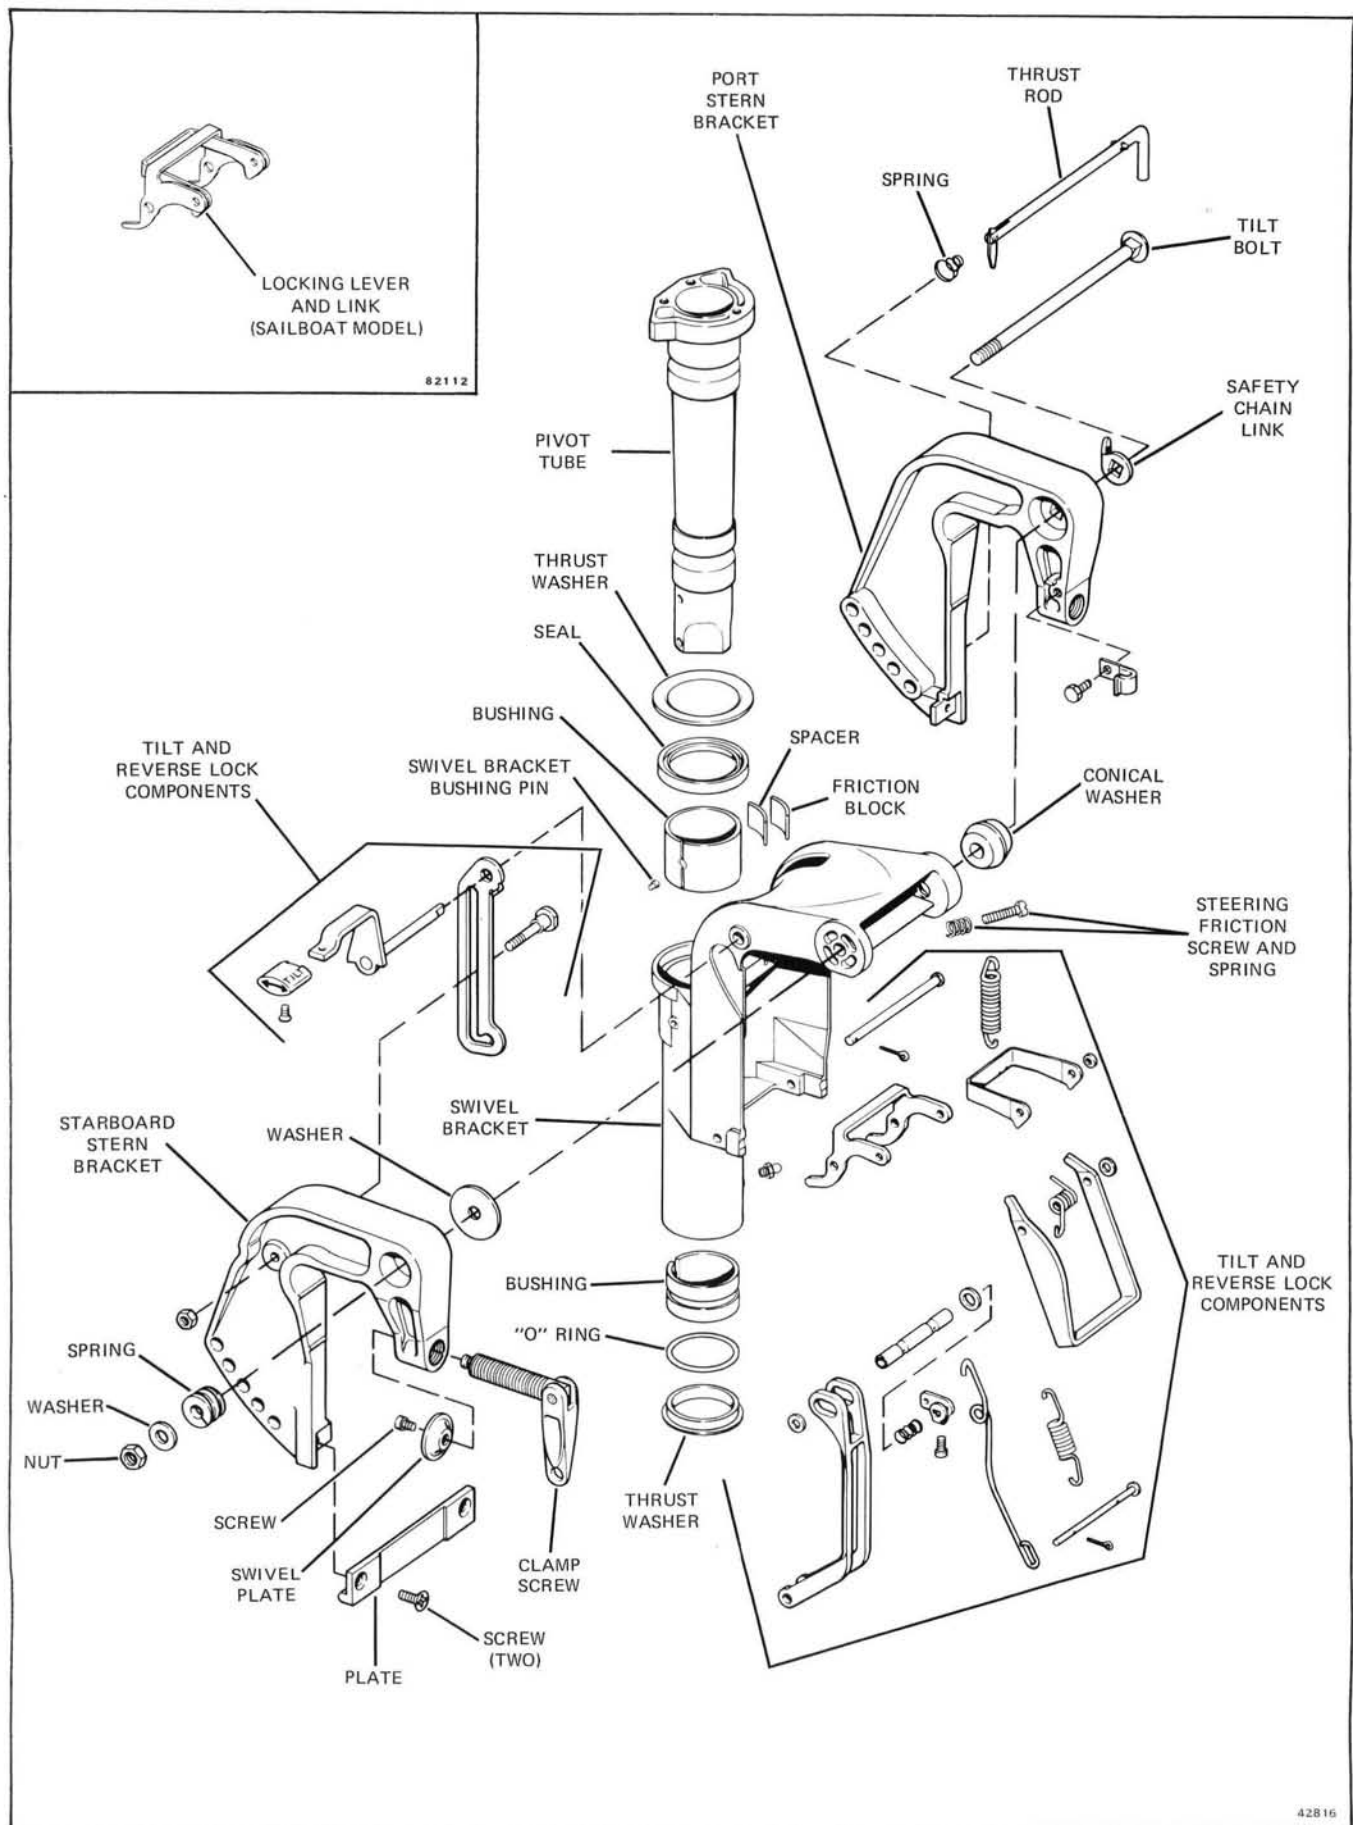

Figure 6-11. Stern and Swivel Brackets
8. Loosen swivel bracket friction adjustment screw and spring. See Figure 6-11.
11. Upper swivel bracket liner is pinned in place. Remove by pushing pin from outside of swivel bracket. See Figure 6-11. Spacer and friction block can be removed after removal of swivel bracket liner.
12. Stern bracket can be disassembled by removal of thrust rod, tilt bolt nut, washer, spring, tilt bolt, conical washer, and stern bracket plate retained by two screws. See Figure 6-11.
2. Install friction block, upper liner, spacer and pin in swivel bracket. See Figure 6-11.